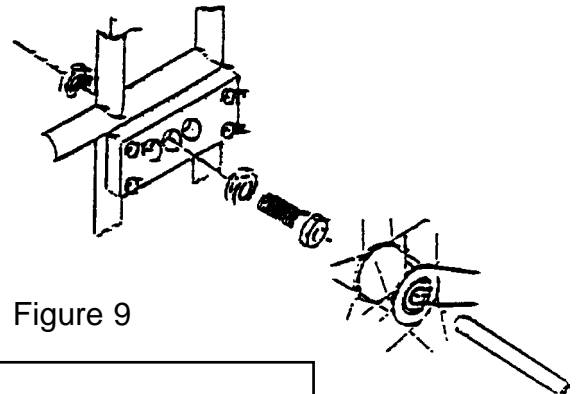

Figure 9
- 9 The balance of the wheelchair can be adjusted by selecting from three wheel positions (see FIG 9).